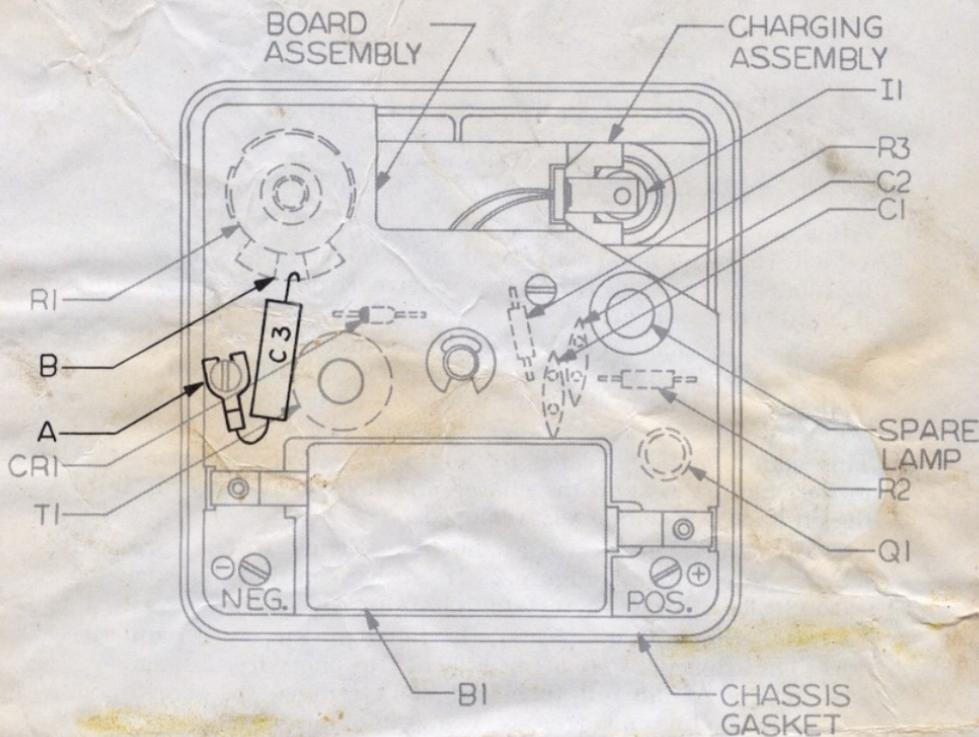
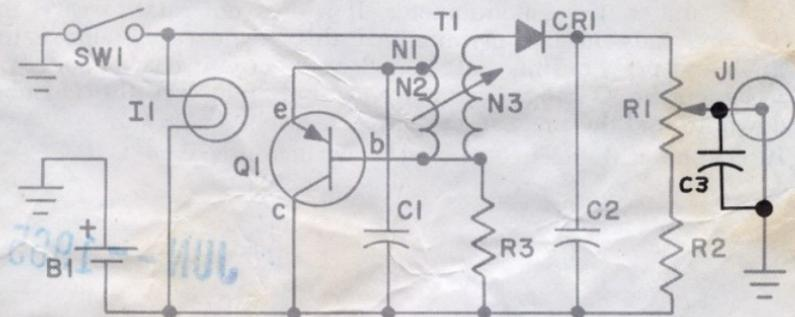

Figure 1.
Figure 2.
4. The capacitor is connected as shown in Figure 1. The corrected schematic is shown in Figure 2. It can be seen that the capacitor is connected directly across the charging electrode.